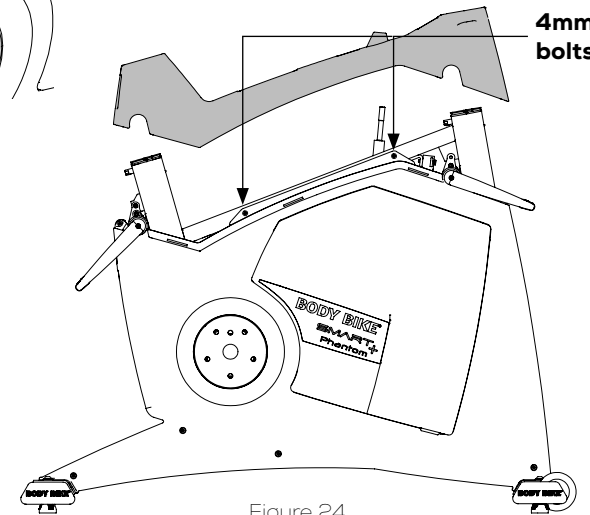

Figure 24
- 5) Pull off the top cover. This makes the two hidden bolts accessible. See figure 24.